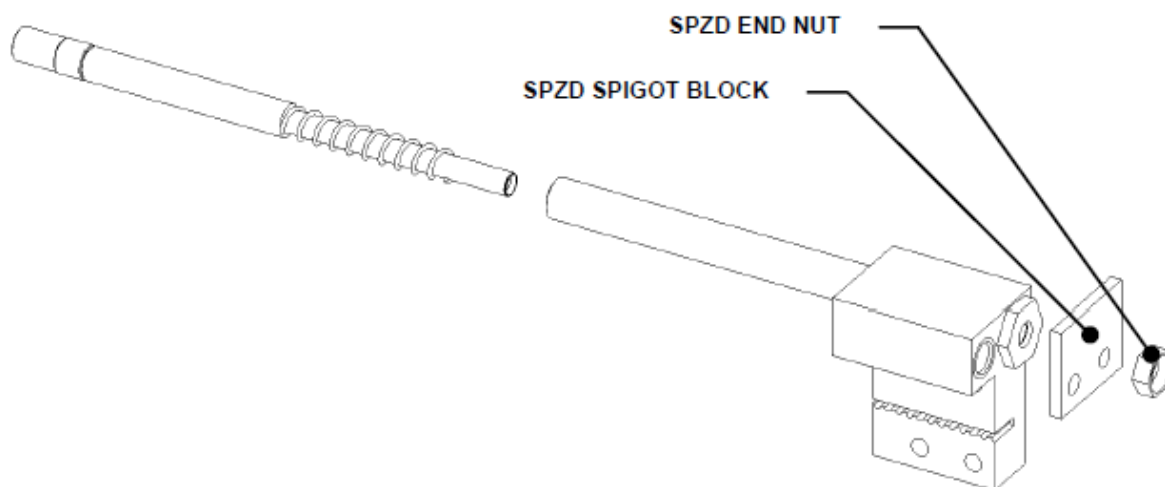

Figure U-38: Using the Spigot Support
3. Slide the assembly from step b through the Spigot Support and secure it with a SPZD Spigot Block. Block it with a SPZD Spigot End Nut (Figure U-38).